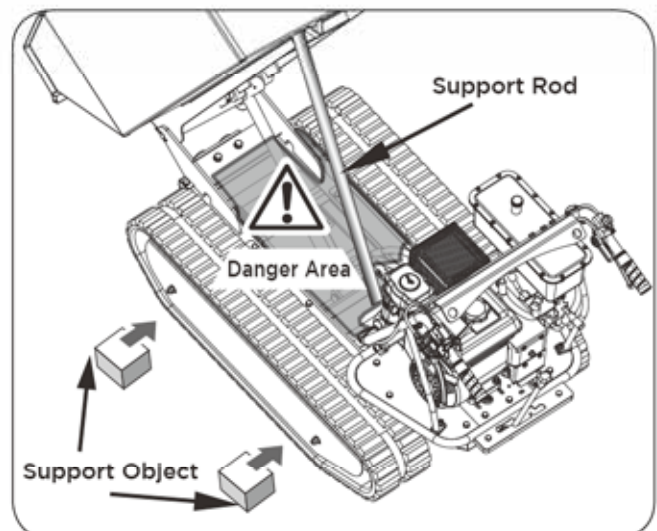

Figure 11a
2. Lift the machine and set it on blocks or supports rated for the weight of the machine so that the tracks are approximately 4" off the ground. (See **Figure 11a**)